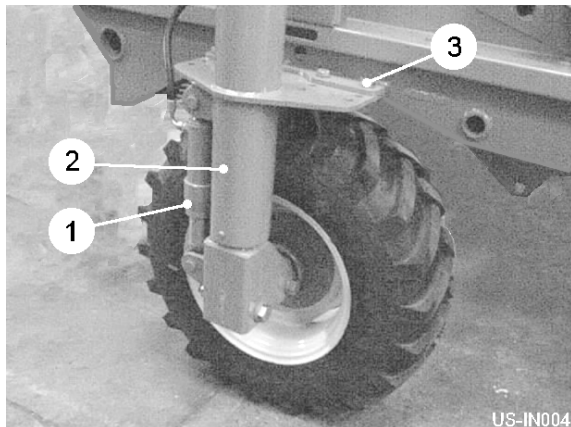
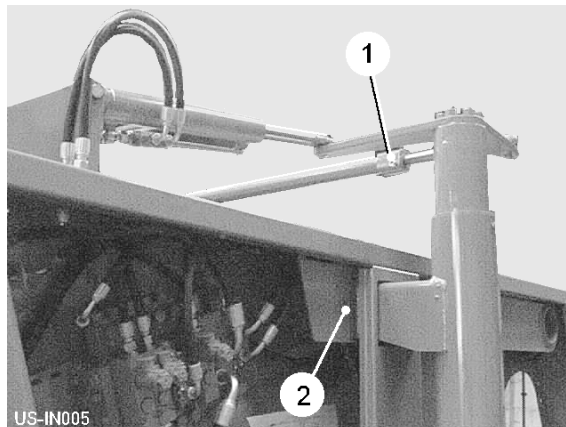

Fig 4
Fig 5
Each wheel is carried by a wheel leg pillar (item 2, fig 4) The pillars have a top and bottom flange plate containing a series of fixing holes. Moving the pillars in or out adjusts the wheel centres to suit the selected bed width. Both wheel legs must be set to the same hole positions so that the wheels remain symmetrical about the centreline of the machine. Lifting equipment must be used when setting the wheels.
Release the track rod locking bolt (item 1, fig 5) and remove the flange plate mounting bolts (item 3, fig 4 & item 2, fig 5). Using lifting equipment, carefully slide the leg pillar to the required position. Refit the mounting bolts (item 3, fig 4 & item 2, fig 5) through the relevant hole in the flange plates. Repeat the procedure for the opposite wheel. Finally, set the track rod to the correct length and secure using the locking bolt. Ensure all nuts and bolts are fully tightened after adjustments have been completed.
The switches marked 'MACHINE LEVEL' operate the LH and RH levelling rams (item 1, fig 4).